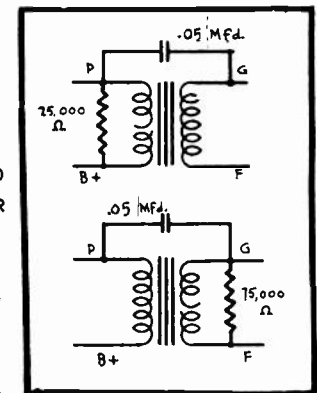

Fig. 4
IN RECEIVERS WHERE AN A.F. TRANSFORMER IS USED AS A MEANS OF COUPLING BETWEEN THE A.F. STAGES, AS ILLUSTRATED IN FIG. 4, ONE OF THE WINDINGS SOMETIMES BECOMES OPEN CIRCUITED AFTER THE UNIT HAS BEEN IN SERVICE. IN THE EVENT THAT A NEW TRANSFORMER CANNOT BE OBTAINED READILY, AN EMERGENCY REPAIR CAN BE MADE IN THE FOLLOWING MANNER:
1. - IF THE PRIMARY WINDING IS OPEN CIRCUITED, THEN CONNECT A 25,000 OHM RESISTOR ACROSS THE PRIMARY TERMINALS OF THE TRANSFORMER AND CONNECT A .05 MFD. CONDENSER BETWEEN THE PLATE (P) AND THE GRID (G) TERMINAL OF THE TRANSFORMER AS SHOWN IN THE UPPER ILLUSTRATION OF FIG. 4.
2. - SHOULD THE SECONDARY WINDING BE OPEN CIRCUITED, THEN CONNECT A 75,000 OHM RESISTOR ACROSS THE SECONDARY TERMINALS OF THE TRANSFORMER AND AN .05 MFD. CONDENSER BETWEEN THE PLATE AND GRID TERMINALS OF THE TRANSFORMER AS SHOWN IN THE LOWER ILLUSTRATION OF FIG. 4.